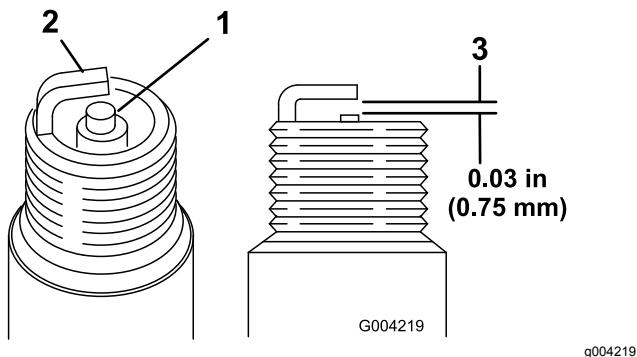

Figure 49
- Look at the center of both spark plugs (Figure 49). If you see light brown or gray on the insulator, the engine is operating properly. A black coating on the insulator usually means the air cleaner is dirty.
2. Check the gap between the center and side electrodes (Figure 49).
3. Bend the side electrode (Figure 49) if the gap is not correct.